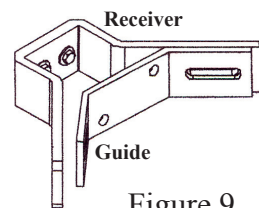

Figure 9
11. To mount the gate receiver and guide, begin by sliding the gate to the fully closed position. Install the guide on the leading edge of the gate, half way between top and bottom tracks, using fasteners provided. Attach the receiver assembly to the receiver post and align with the guide. See Figure 9.